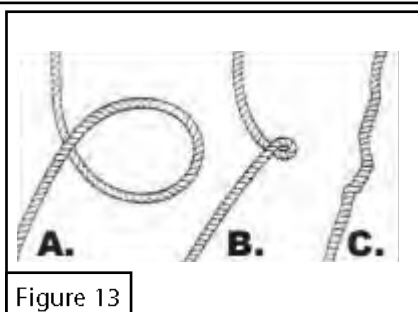

Figure 13
5. **Troubleshooting:** If the O-ring falls off when clocking the winch, carefully use a plastic trim tool to pack the O-ring into position. Add a small dab of RTV if necessary to hold the O-ring. **See Figure 13.**
- When winching, use a winch dampener (**See Figure 13**), blanket, or heavy jacket to place over the winch rope, to protect people and property. This is done to direct energy to the ground in case of winch rope breakage. Monitor your rigging during winching to be sure that your dampener is not caught up in fairleads or pulley blocks. Always keep safety your top priority during winching.
3. Ensure the cable is not kinked, or coiled up as shown in **Figure 13**. Uncoil as necessary or else **damage will occur**.